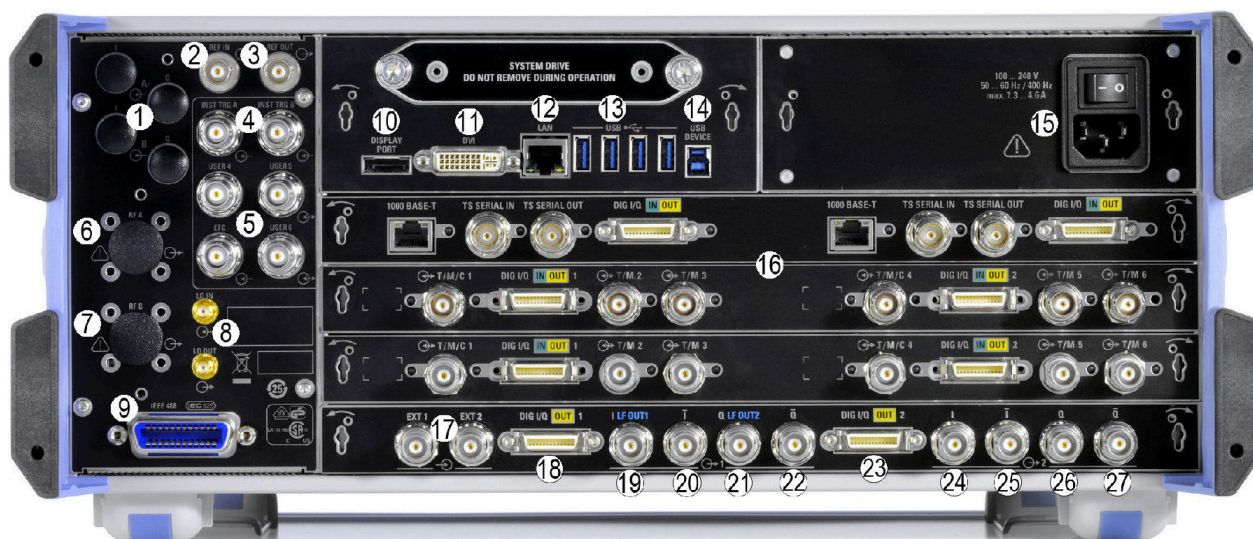

Figure 5-2: Rear panel view (example; 2 paths instrument)
See (15) in Figure 5-2.
See (10) in Figure 5-2.
See (11) in Figure 5-2.
See (12) in Figure 5-2.
See (13) in Figure 5-2.
See (14) in Figure 5-2.
See (1) in Figure 5-2.
See (4) in Figure 5-2.
See (2) in Figure 5-2.
See (3) in Figure 5-2.
See (5) in Figure 5-2.
See (6, 7) in Figure 5-2.
See (8) in Figure 5-2.
See (9) in Figure 5-2.